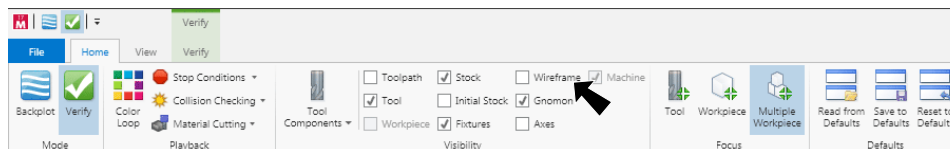

Fig. 39
Step 3. Click uncheck **Wireframe** in Mastercam Simulator home ribbon bar, **Fig. 39**.